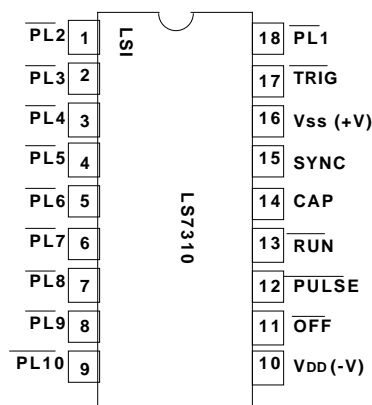

FIGURE 1
- 18-Pin Plastic DIP, 18-Pin SOIC (See Figure 1)